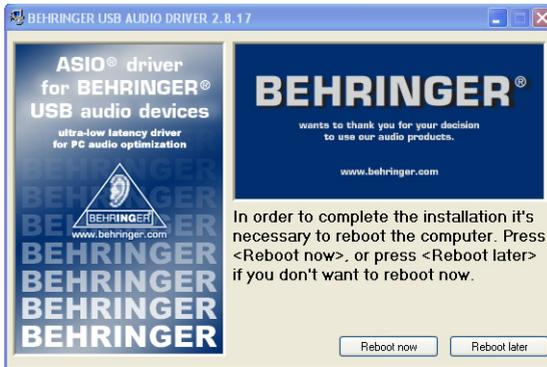

Figure A-4. Reboot Screen
- After the driver is installed, click Reboot Now to reboot the PC and complete the installation (Figure A-4).